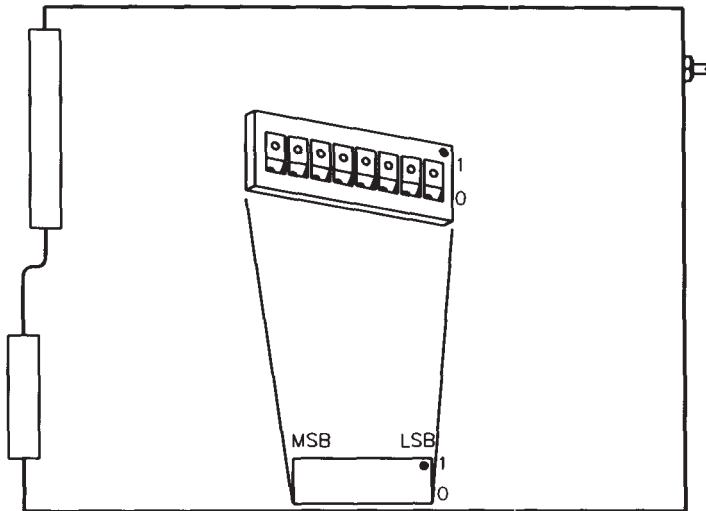

Figure 5-39.
- a. Set the video board's eight configuration switches as shown in Figure 5-39.